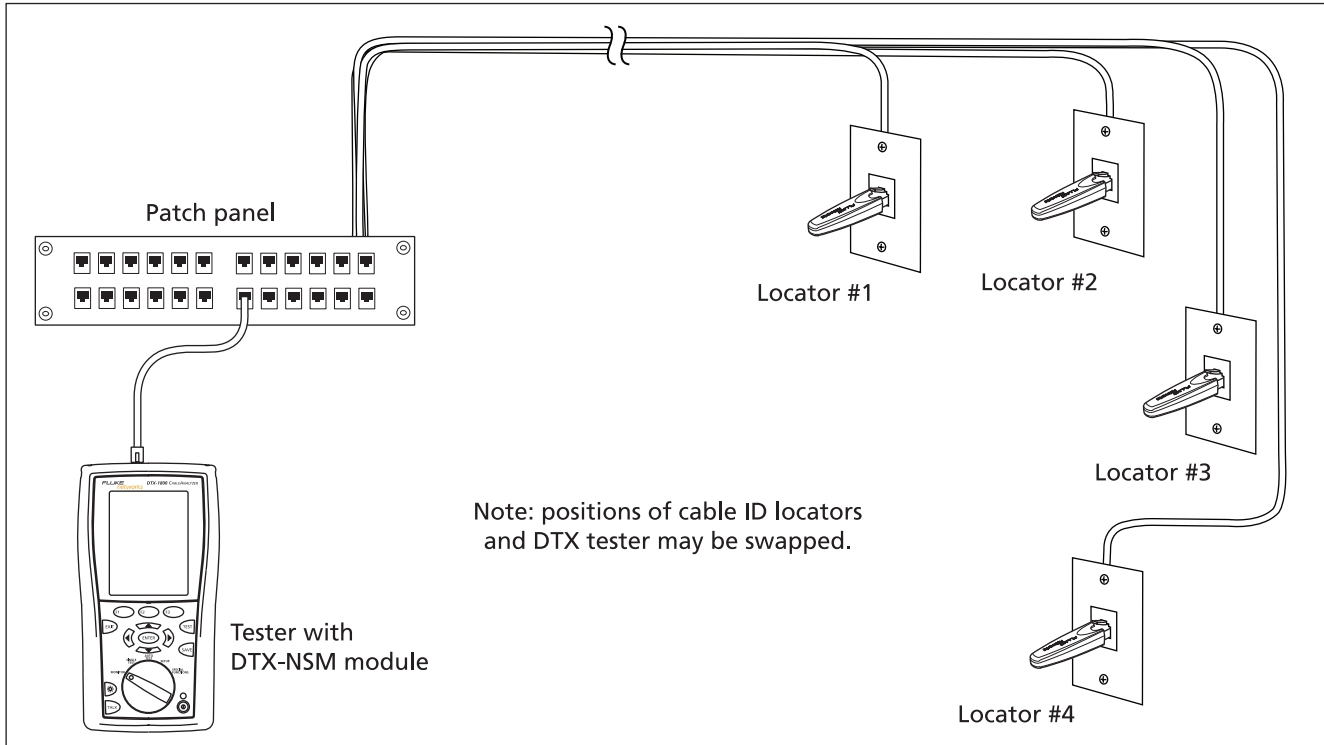

Figure 11-8. Identifying Links with Optional LinkRunner Cable ID Locators
- 1 Connect the tester and ID locator(s) as shown in Figure 11-8.